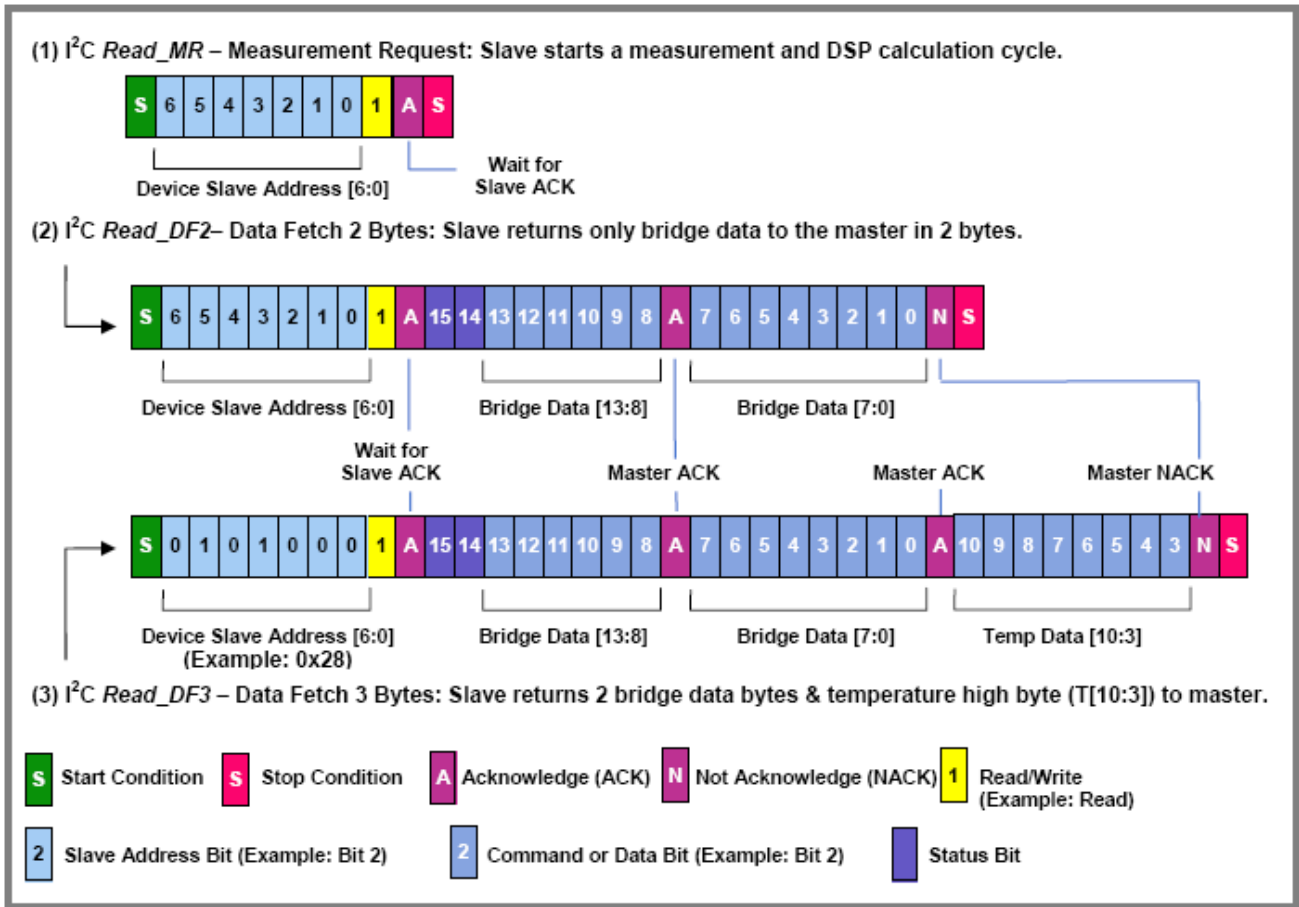

Figure 1.6 – I2C Measurement Packet Reads
The I2C master command starts with the 7bit slave address with the 8th bit =1 (READ).The sensor as the slave sends an acknowledge (ACK) indicating success. The sensor has four I2C read commands: Read_MR, Read_DF2, Read_DF3, and Read_DF4. Figure 1.6 shows the structure of the measurement packet for three of the four I2C read commands, which are explained in sections 1.6.1 and 1.6.2
The Read_MR (see example 1 in Figure 1.6) communication contains only the slave address and the READ bit(1) sent by the master. After the sensor responds with the slave ACK, the master must create a stop condition. This is only used in Sleep Mode (see section 3.1.2) to wake up the device and start a complete measurement cycle (including the special measurements) followed by the DSP calculations and writing the results to the digital output register.
For Data Fetch commands, the number of data bytes returned by the RBiCiLite™ is determined by when the master sends the NACK and stop condition. For the Read_DF3 data fetch command (Data Fetch 3 Bytes; see example 3 in Figure 1.6), the sensor returns three bytes in response to the master sending the slave address and the READ bit (1): two bytes of bridge data with the two status bits as the MSBs and then 1 byte of temperature data (8-bit accuracy). After receiving the required number of data bytes, the master sends the NACK and stop condition to terminate the read operation. For the Read_DF4 command, the master delays sending the NACK and continues reading an additional final byte to acquire the full corrected 11-bit temperature measurement. In this case, the last 5 bits of the final byte of the packet are undetermined and should be masked off in the application. The Read_DF2 command is used if corrected temperature is not required. The master terminates the READ operation after the two bytes of bridge data (see example 2 in Figure 1.6).